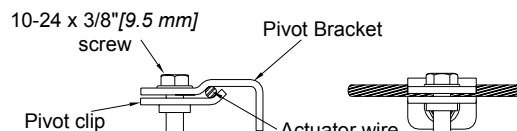

Figure 71. Clamping to actuator wire
2. Using the first pan away from the actuator, push the inner cone to the open position. Place the actuator wire between the pivot bracket and pivot clip then tighten the 10-24 screw, **see figure 71**.